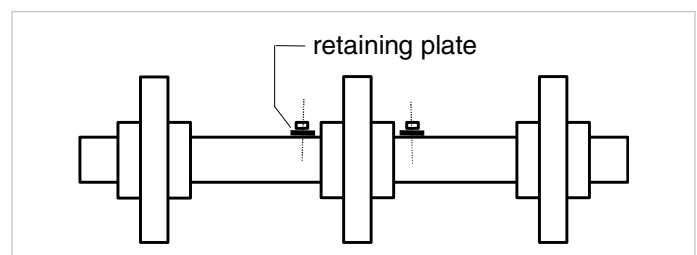

Figure 360: Type: retaining plate
- Retaining plate (Figs. 360 and 370) – a simple low-cost method for square shafts.